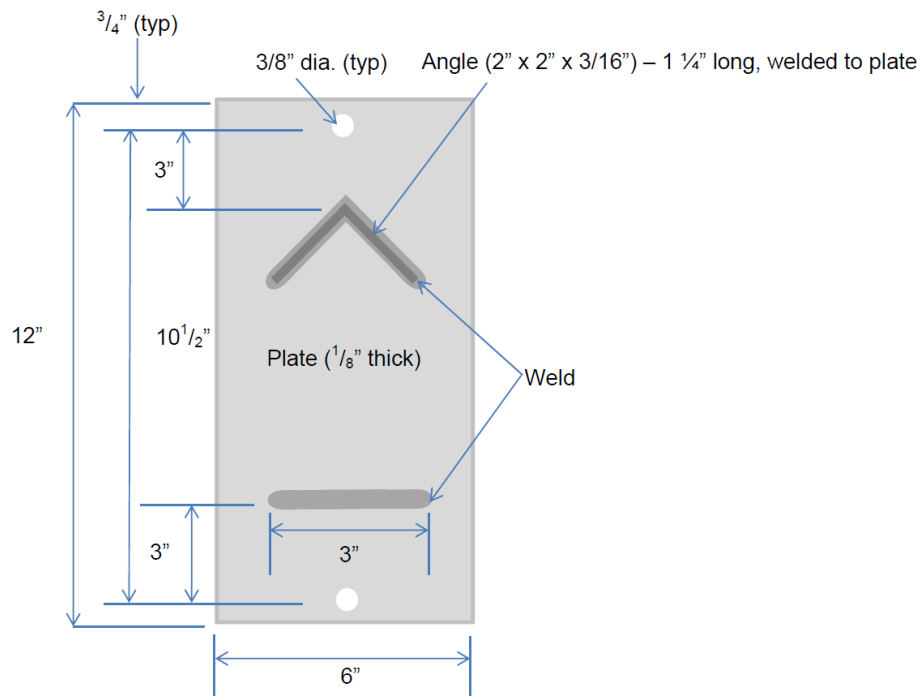

Figure 1—Complex Test Panel
- 3.1 *Steel test panel*, as specified in Figure 1, to serve as a substrate for the test paint. The panel is a complicated shape to paint and will have a combination of aged paint and rusted steel.